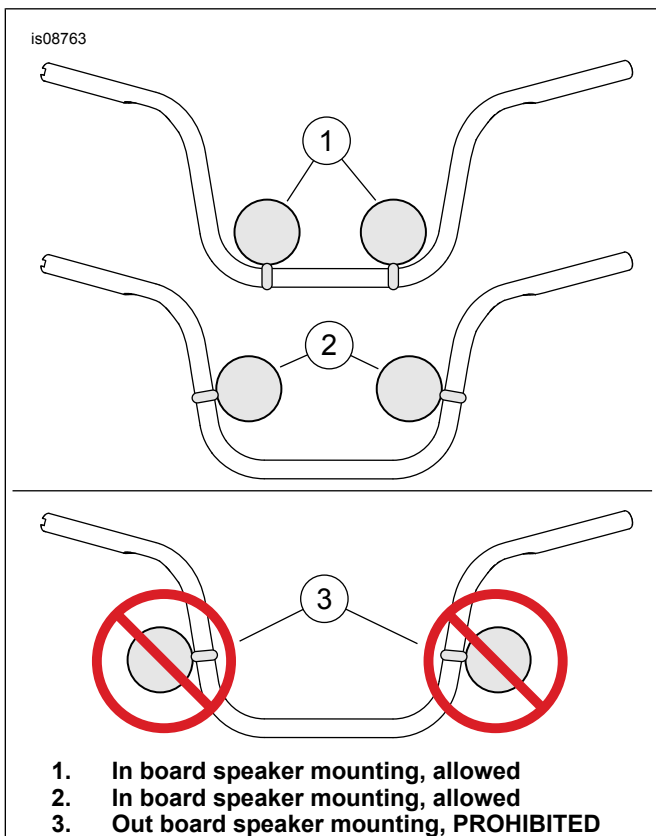

Figure 5. Speaker Location on Handlebar
- See Figure 5. Mount the speakers as shown. Position the speaker clamps (4) so the speakers are inside the handlebar. Position the speakers symmetrically to the left and right of the handlebar clamp, and be placed low and as close to the center as possible.